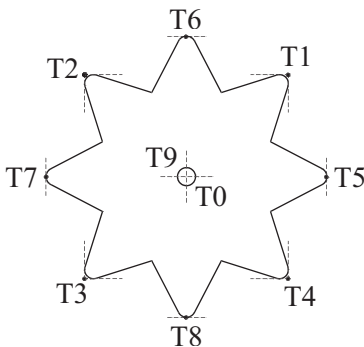
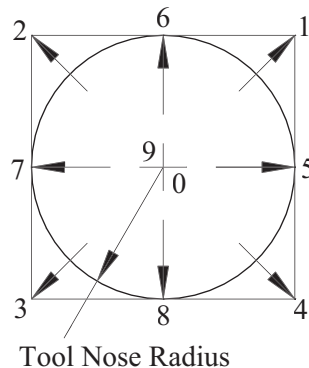

Figure 87
Figure 88
Figures 87 and 88 detail the necessary information to select the proper setting for the Tool Tip Orientation (T), in the offset register, for a rear turret lathe.
In the Figure 87, the tool tip is represented and the contact point is identified. The drawing should help with the selection of the appropriate Tool Tip Orientation (T), based on the direction the contact point is pointing. In Figure 88, the same concept is superimposed onto the actual tool nose and the arrows indicate the contact point and direction.